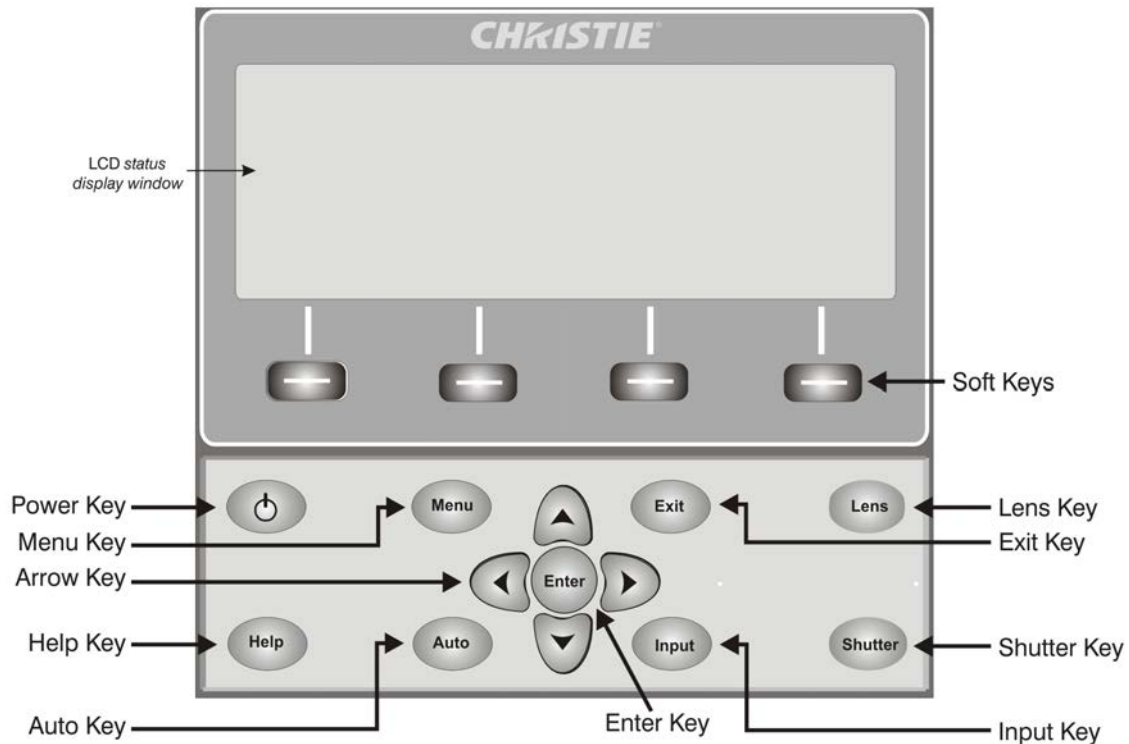

FIGURE 3-2 BUILT-IN KEYPAD
- **Built-in Keypad** located at the rear of the projector, see Figure 3-2 Built-In Keypad.